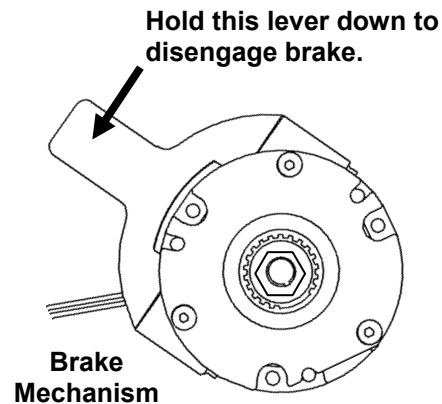

Figure 4.2-28
1. Disengage the brake (see Figure 4.2-28) and manually crank the Sweep to the highest point of its travel.